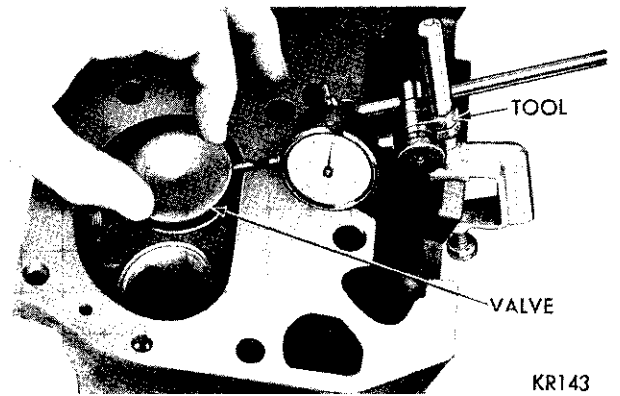

Fig. 10—Measuring Valve Guide Wear
- (5) The special sleeve places the valve at the correct height for measuring with a dial indicator. Attach dial indicator Tool C-3339 to the cylinder head and set it at a right angle to the valve stem being measured (Fig. 10).
- (6) Move valve to and from the indicator. Total dial indicator reading should not exceed .017 inch. If the dial indicator reading is excessive or if the stems are scored or worn excessively, ream the guides for new valves with oversize stems.
- (7) Service valves with oversize stems are available in .005, .015 and .030 inch oversizes. Reamers to accommodate the oversize valve stem are as follows: